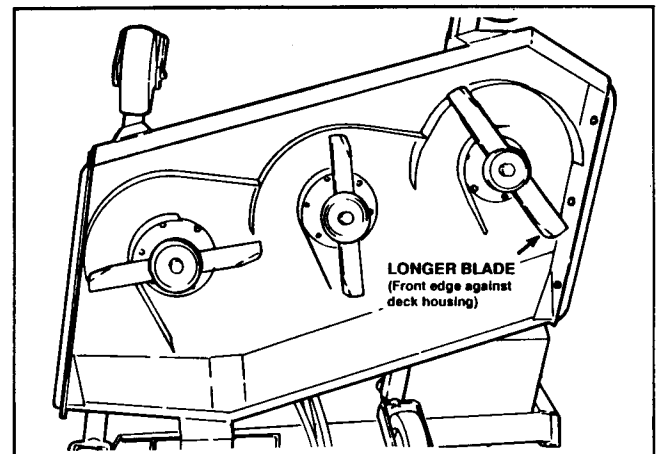

Figure 16a
3. To prevent deck blades from rotating on deck to be tested: Remove one outer blade from deck to be tested and install a longer blade (P/N 29-5530) from Groundsmaster 72 in. deck (Fig. 16a). Loosen belt and turn spindle to put front (cutting) edge of blade against deck housing. Make sure deck drive belts are properly adjusted and in good condition before performing test.